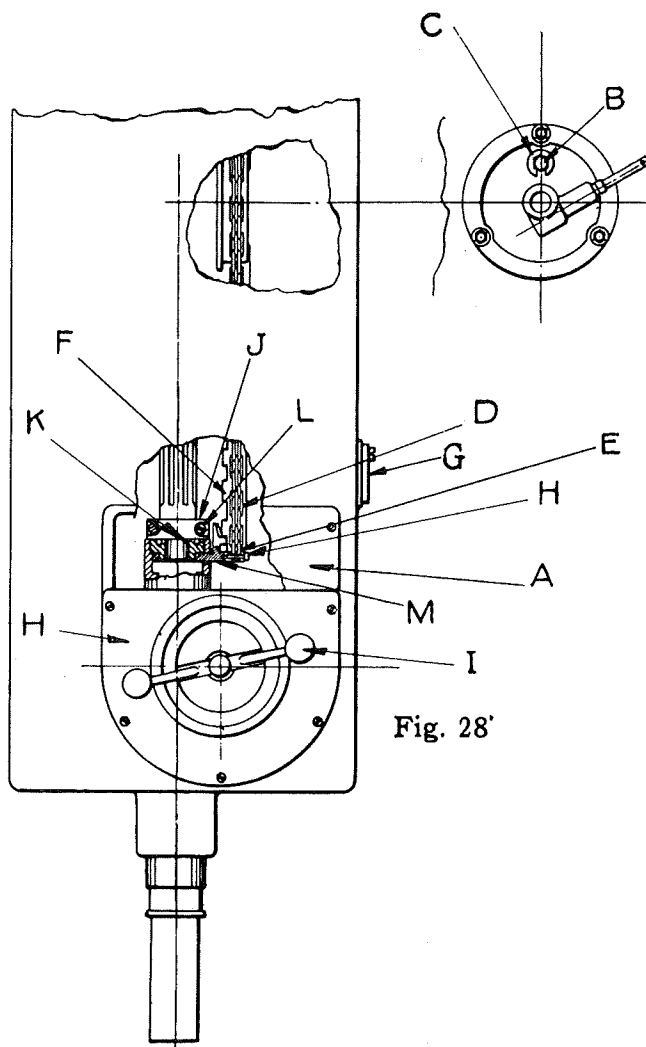

Fig. 28'
(These instructions refer to Fig. 28. unless otherwise noted.)
10. Grasp the quick-return lever "I" firmly, depress the safety catch "E" and lower the spindle until the jam nut "J" and the retaining plug "K" are in the position shown on Fig. 28.